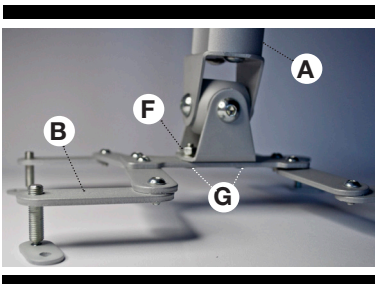

Fig. 2
Take parts (B) and (A) and mount them using the screws (E) and the nuts (F) like shown in Fig. 2. Be sure that the screws (E) are very well tightened, so the elements (B) and (A) are anchored in a safe way.